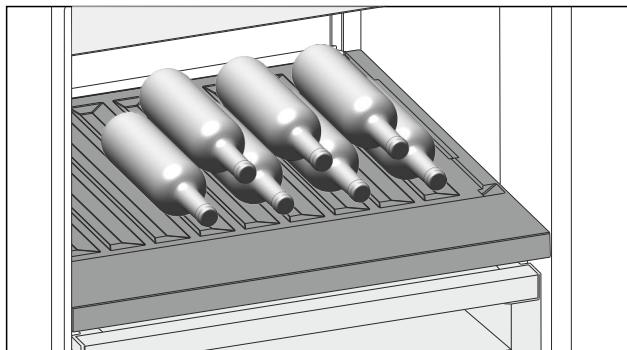

Fig. 119
- ▶ Place bottles in the back row with their bases against the back wall. (see Fig. 119)